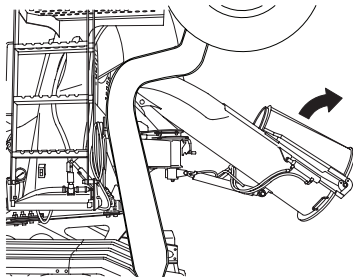

Figure 135
2. Grip the fold-over chute using the correct hand-holds (Figure 135).